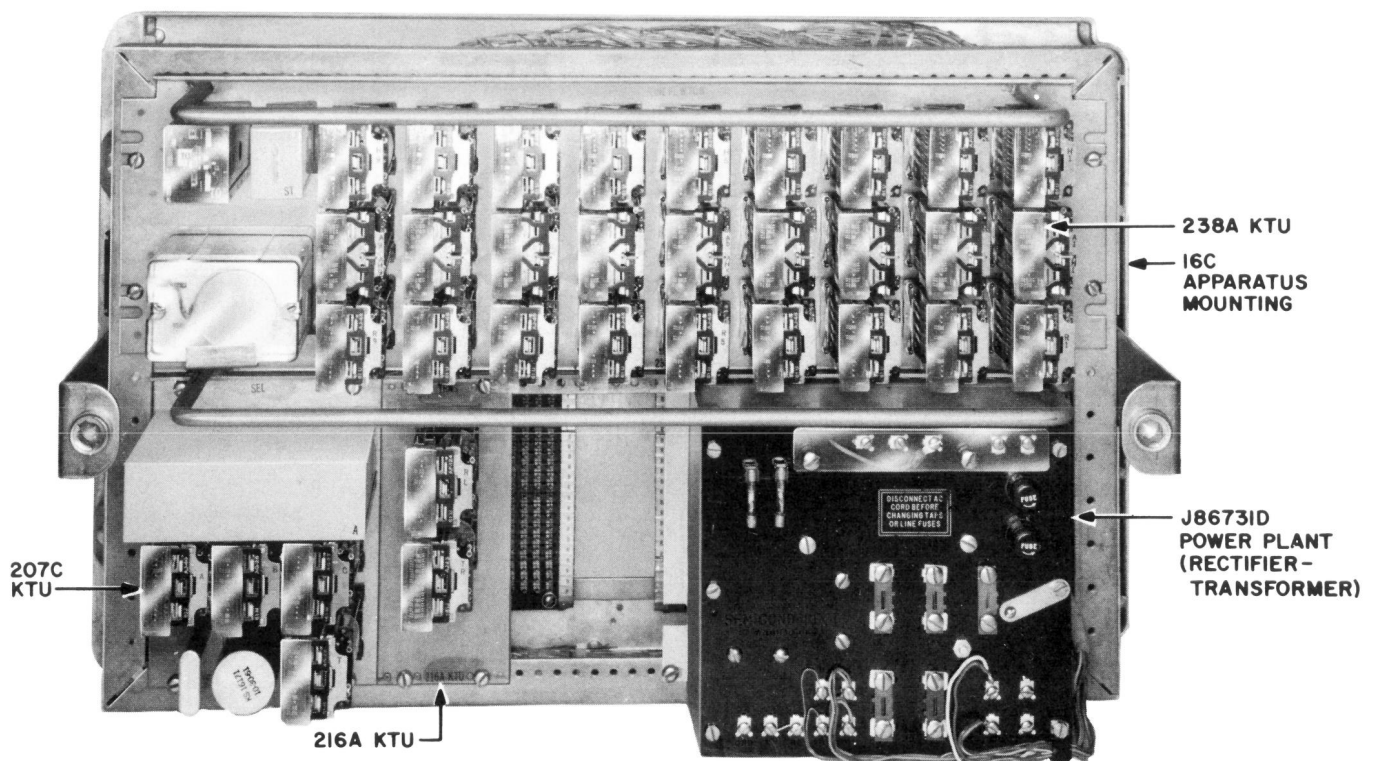

Fig. 6 — 311A12D KSU, Gate Closed
2.24 Fig. 6 shows the 311A12D key service unit with the gate closed.